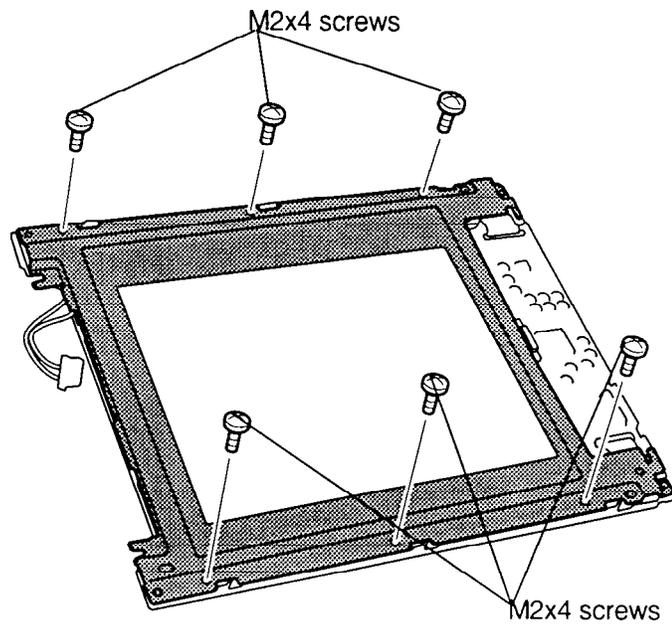

Figure 4-39 Removing the FL screws
To remove the T2400CT's fluorescent lamp, follow the steps below and refer to figures 4-39 to 4-41.
3. Turn the LCD module upside down and remove the **six M2x4 screws** (figure 4-39).
To install the T2400CT's fluorescent lamp, follow the steps below and refer to figures 4-39 to 4-41. Note that there are separate grooves for the lamp and its white cable.
6. Secure the metal cover with **six M2x4 screws** (figure 4-39).